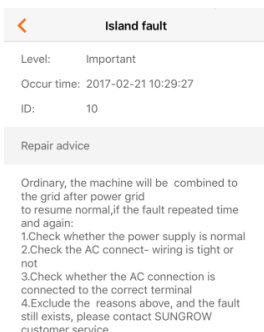

Fig. 10-9 Detailed fault alarm info
Step 2 Select one of the records in the list and click the record, to view the detailed fault info as shown in Fig. 10-9.